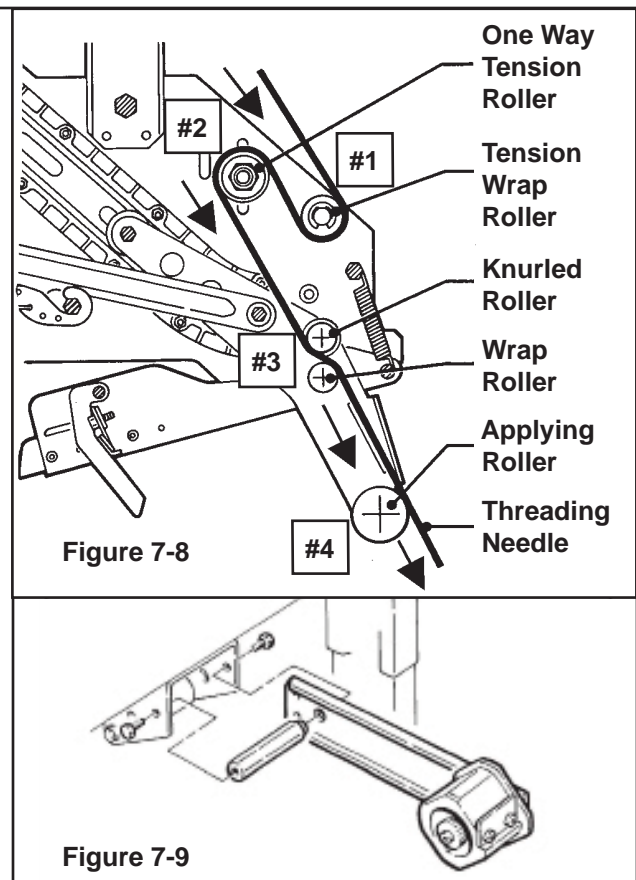

Figure 7-8
2. Use **Figure 7-8** and tape threading label. Position the tape supply roll so the adhesive side of tape is facing the front of the taping head as it is pulled from the supply roll.
4. Continue pulling the threading needle down and guide it between the two (2) rollers on the apply arm (**Position 3**).